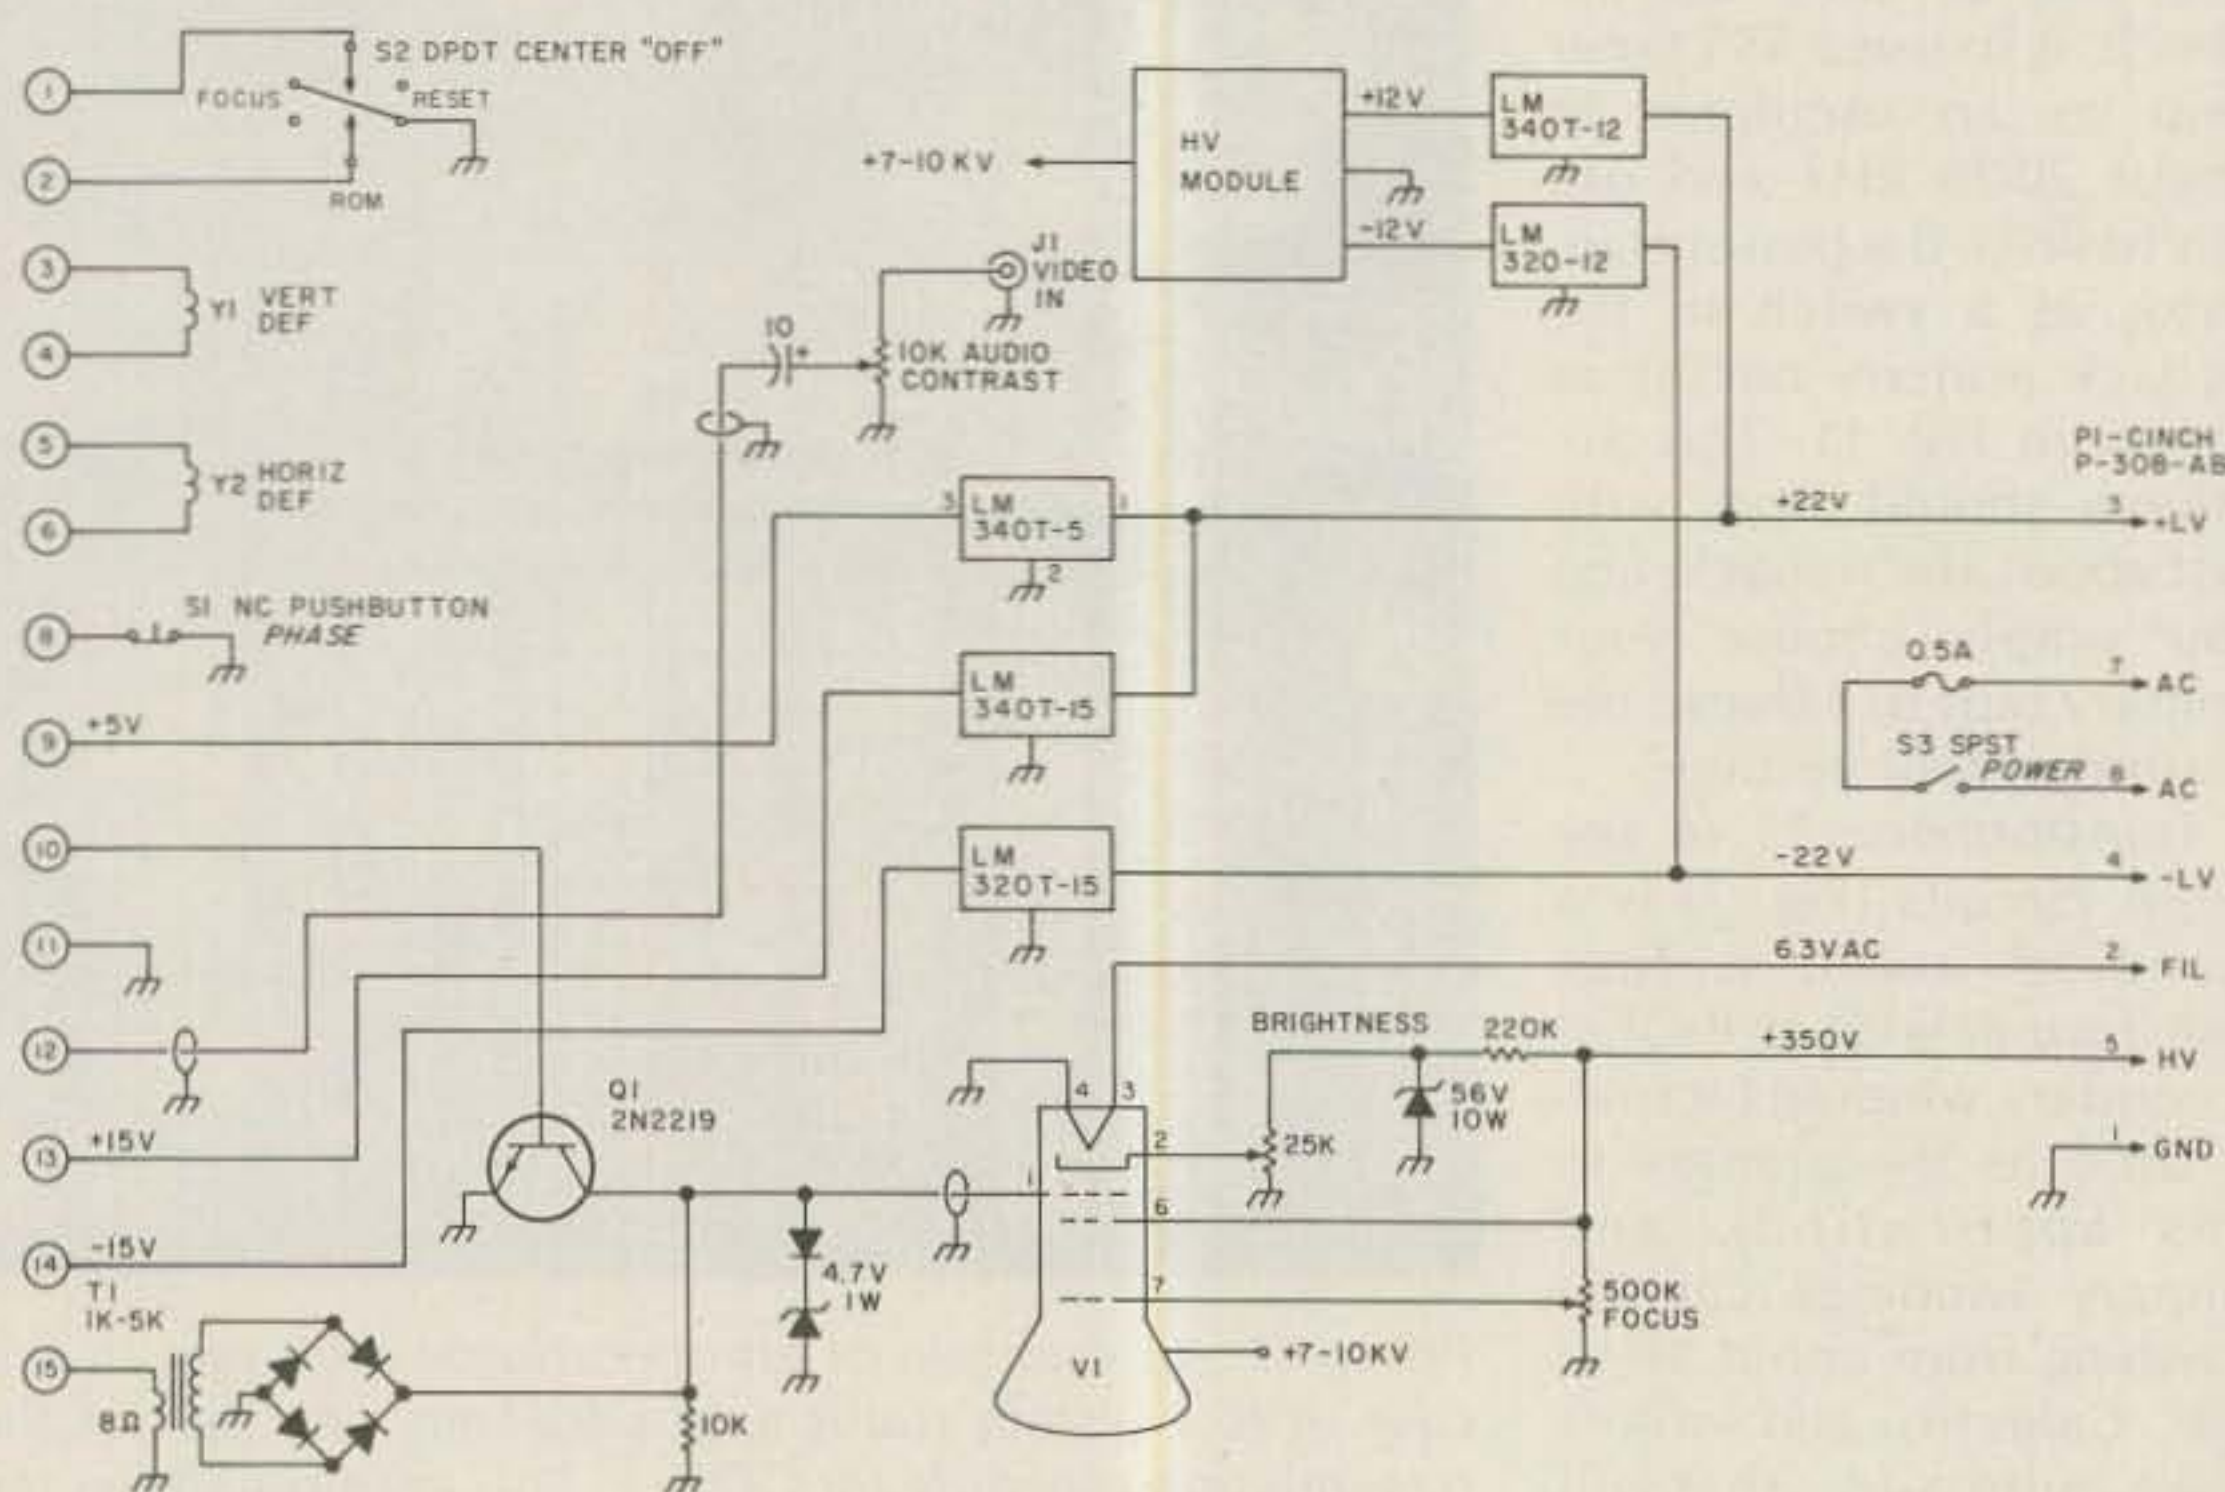

Fig. 7. Monitor mainframe wiring, assuming that all components, exclusive of power supplies, are in one cabinet.
**Transformers.** T1 in the video circuits (Fig. 7) is a standard audio output transformer with an 8-Ohm secondary winding (actually used as the primary in this application), and primary windings can be anything from about 1k to 16k. Calectro and others make quite a few that will work just fine—simply look for a "universal" out-
**Cabling.** You can do anything you want in this area, from hardwiring the two units together to the use of exotic cable assemblies. Figs. 7 and 8 specify the use of a Cinch-Jones P-308-AB
be mounted quite close to the external anode of the CRT so that only a short length of HV cable is required for the anode connection. The HV module should operate off its own regulators (as in Fig. 7) to minimize its effect on other circuits.